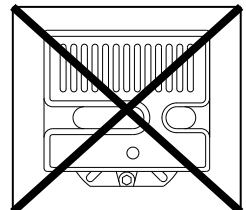

Fig. 7
- The burner is designed to operate only in positions 1, 2, 3 and 4 (Fig. 7).